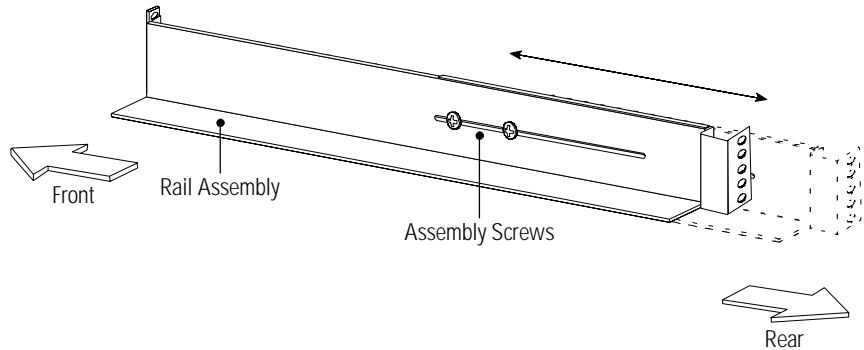

Figure 2. Adjusting the Rail Depth
3. Loosen the assembly screws on both rail assemblies and adjust the rail size for the depth of your rack (see Figure 2).